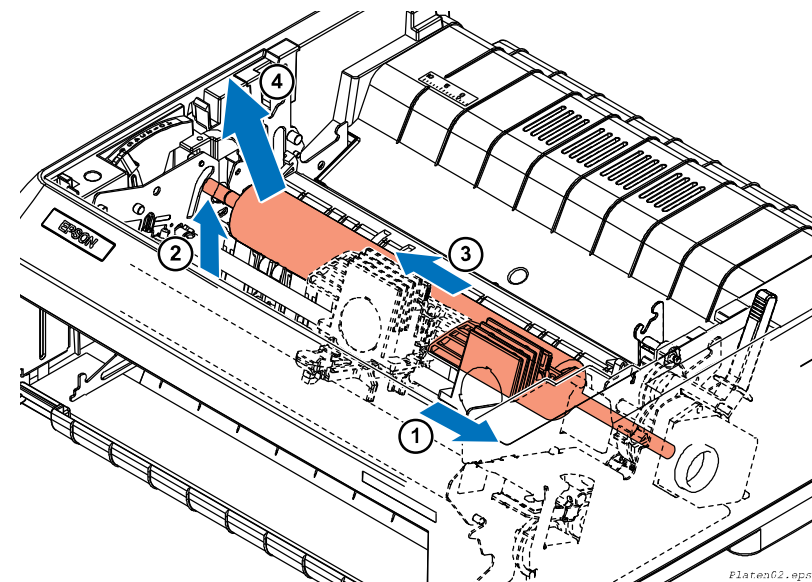

Figure 4-15. Platen Removal 2
4. Move the carriage to the right end, lift the left side of the platen slightly, move the carriage to the center and remove the platen to the left. (See Figure 4-15)